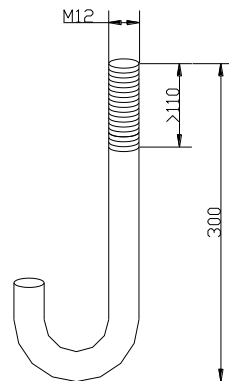

Fig. 5
- Foot and Expansion Bolt: (Fig.5)